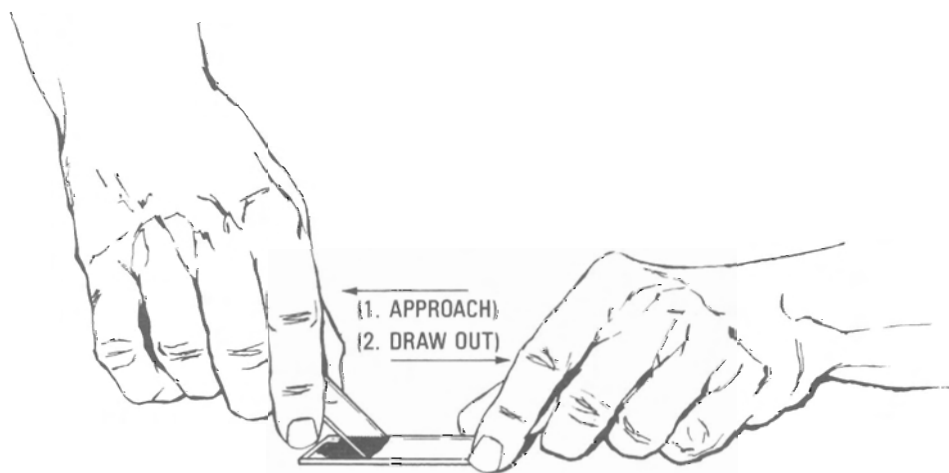

Figure 4-2:
7. Pick up a very small drop of blood with the slide (do not touch skin) so that it is about 1/4 inch from the end of the slide. Approach the drop with another slide at about a 30° angle (Figure 4-2). Allow blood to run across the edge of the spreader slide, then draw it out full length as illustrated. The film should not touch the margins of the slide; large cells tend to accumulate in groups at the edges and the small cells, such as lymphocytes and normoblasts, go to the center if the film is not free of the slide margins.